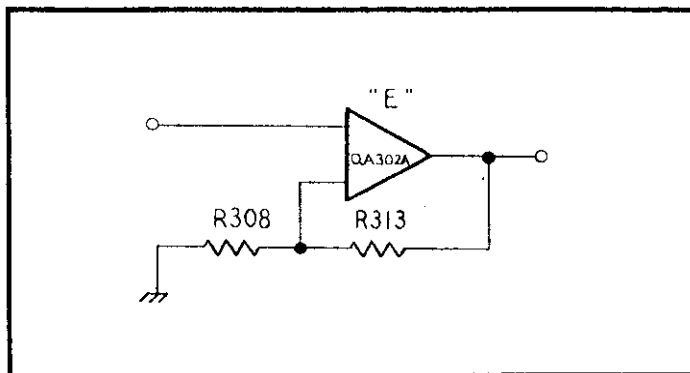

FIGURE 23. Non-inverting Stage "E".
e. Stage "E". This amplifier stage is composed of integrated circuit QA302A connected as a non-inverting amplifier as shown in Figure 23. Gain is set by resistors R308 and R313, where: